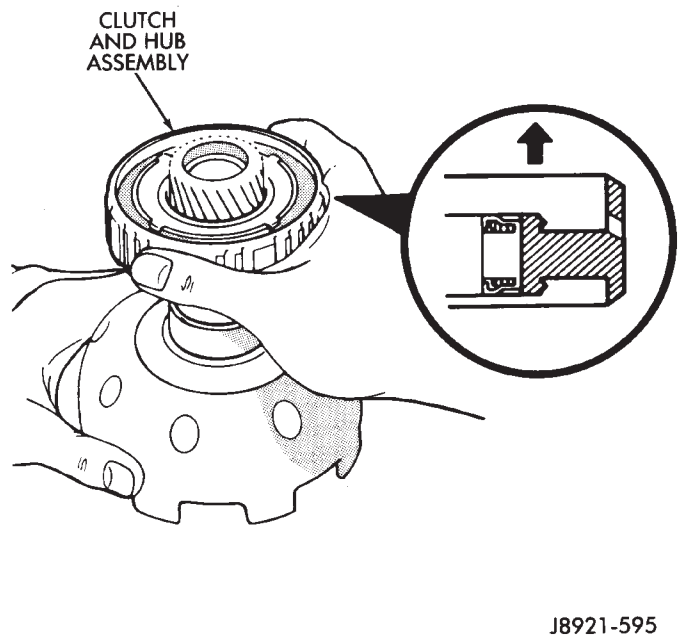

Fig. 267 Installing Clutch And Hub Assembly On Sun Gear
- (1) Install first snap ring on sun gear.
- (2) Install sun gear in drum and install remaining snap ring.
- (3) Coat replacement seal rings with petroleum jelly and install them on sun gear. **Be sure seal ring ends are interlocked.**
- (4) Install thrust washer. Be sure washer tabs are seated in drum slots.
- (5) Install one-way clutch/second brake hub assembly on sun gear. Deep side of hub flange faces upward (Fig. 267).